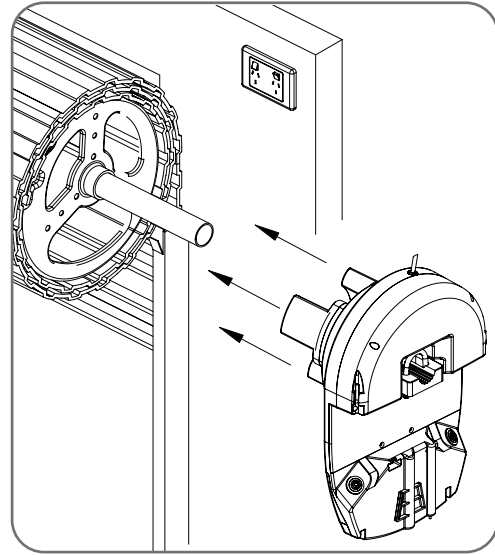

Fig 6.3
- b. Slide the opener over the door axle and into the drum of the door (**Fig. 6.3**).